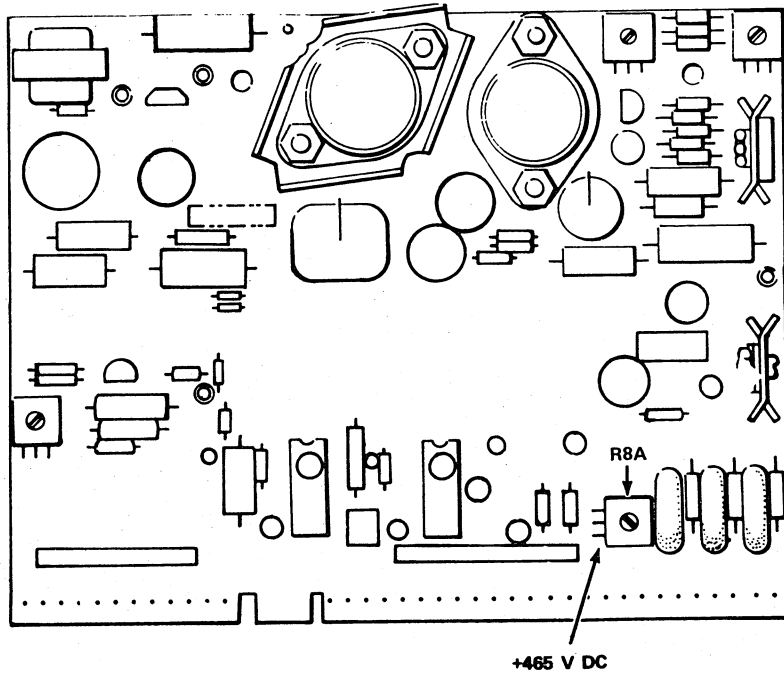

Figure 6-31. Test Point for +465 V dc
5. Connect the red (+) lead to resistor R8A (figure 6-31).